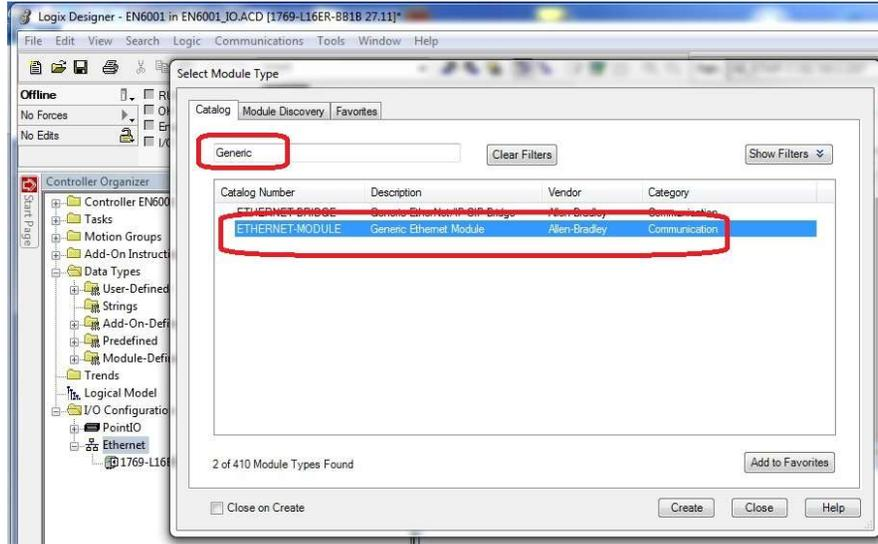

Figure 6 Create Generic Ethernet Module
2.2.1.2. Select **Generic Ethernet Module** and click **Create**, as shown in Figure 6.